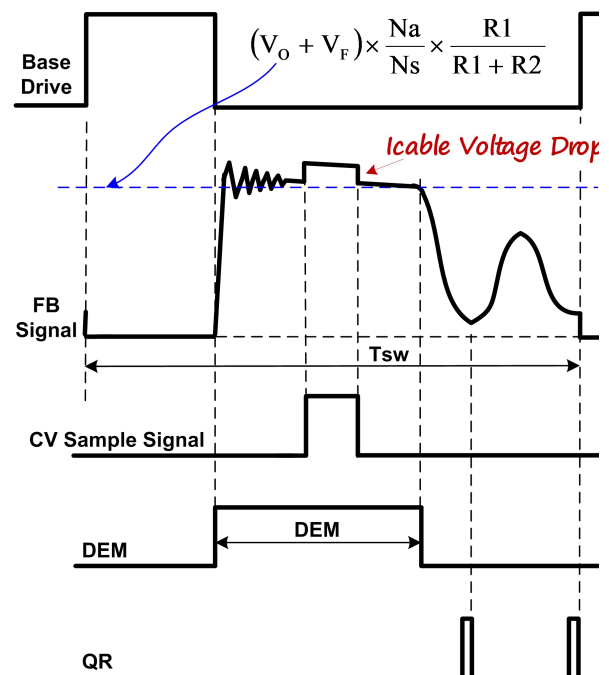

Fig.2
output voltage is sensed on the auxiliary winding during the transfer of transformer energy to the secondary. Fig.2 illustrates the timing waveform of CV sampling signal, demagnetization signal (DEM) and quasi-resonant (QR) trigger signal in DP2525E. When the CV sampling process is over, the internal sample/hold (S&H) circuit captures the error signal and amplifies it through the internal Error Amplifier (EA). The output of EA is sent to the Quasi Resonant PSR CV Modulator (QR-CVM) for CV regulation. A valley is selected to trigger new PWM cycle by the output of the QR-CVM block, which is determined by the load. The internal reference voltage for EA is trimmed to 2V with high accuracy.
During the CV sampling process, an internal variable current source is flowing to FB pin for Cable Drop Compensation (CDC). Thus, there is a step at FB pin in the transformer demagnetization process, as shown in Fig.2. Fig.2 also illustrates the equation for "demagnetization plateau", where V_o and V_f is the output voltage and diode forward voltage; R_1 and R_2 is the resistor divider connected from the auxiliary winding to FB Pin, N_s and N_a are secondary winding and auxiliary winding